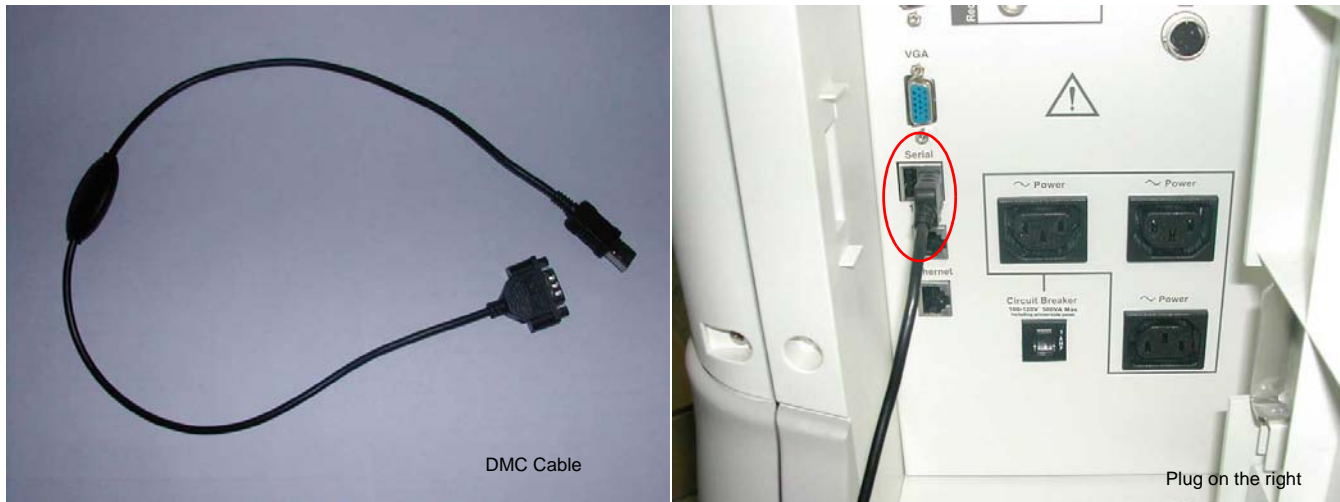

Figure 8-230 DMC Cable
- 2.) Plug in the Cable as shown on the right side of the USB port. Refer to Figure 8-230.